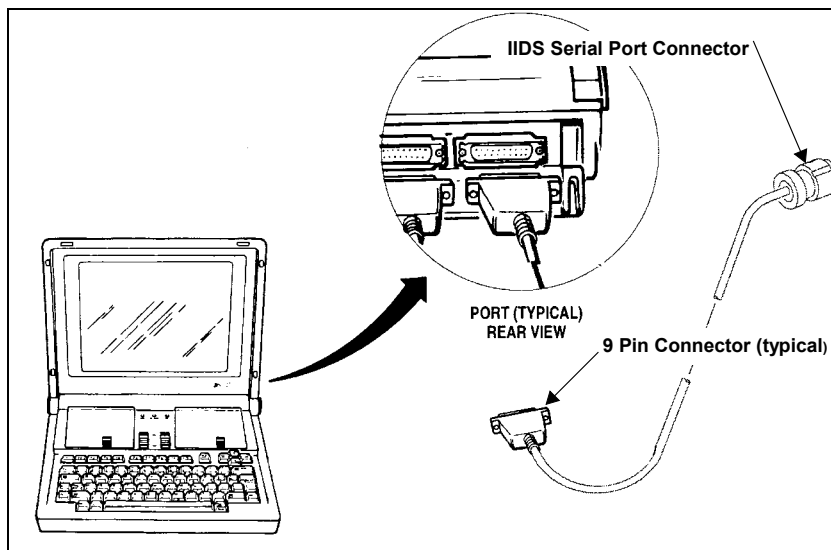

Figure 14. IIDS Serial Cable Connections
1. Connect the 9 Pin connector to the back of the computer at serial port “1” (refer to Figure 14).